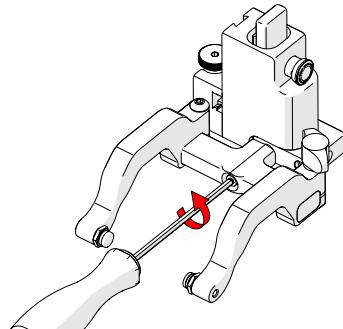

Fig. 127 - Remove yoke
11. Using the supplied 3 mm driver, unscrew the yoke (Fig. 127).
**18.** Remove the yoke using the supplied 3 mm hex driver (Fig. 127).